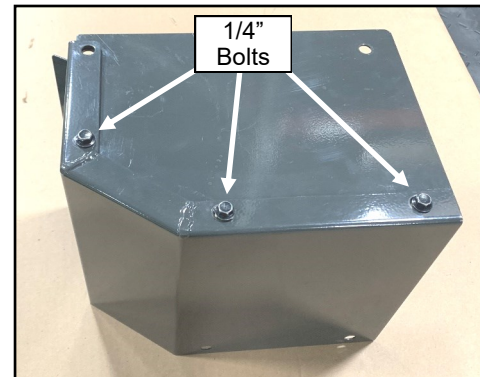

Fig. 9.2 (Assemble Cover Panel)
- 9.2 See fig. 9.2. Assemble the rear shroud panel and cover together as shown. Leave the bolts loose at this time.